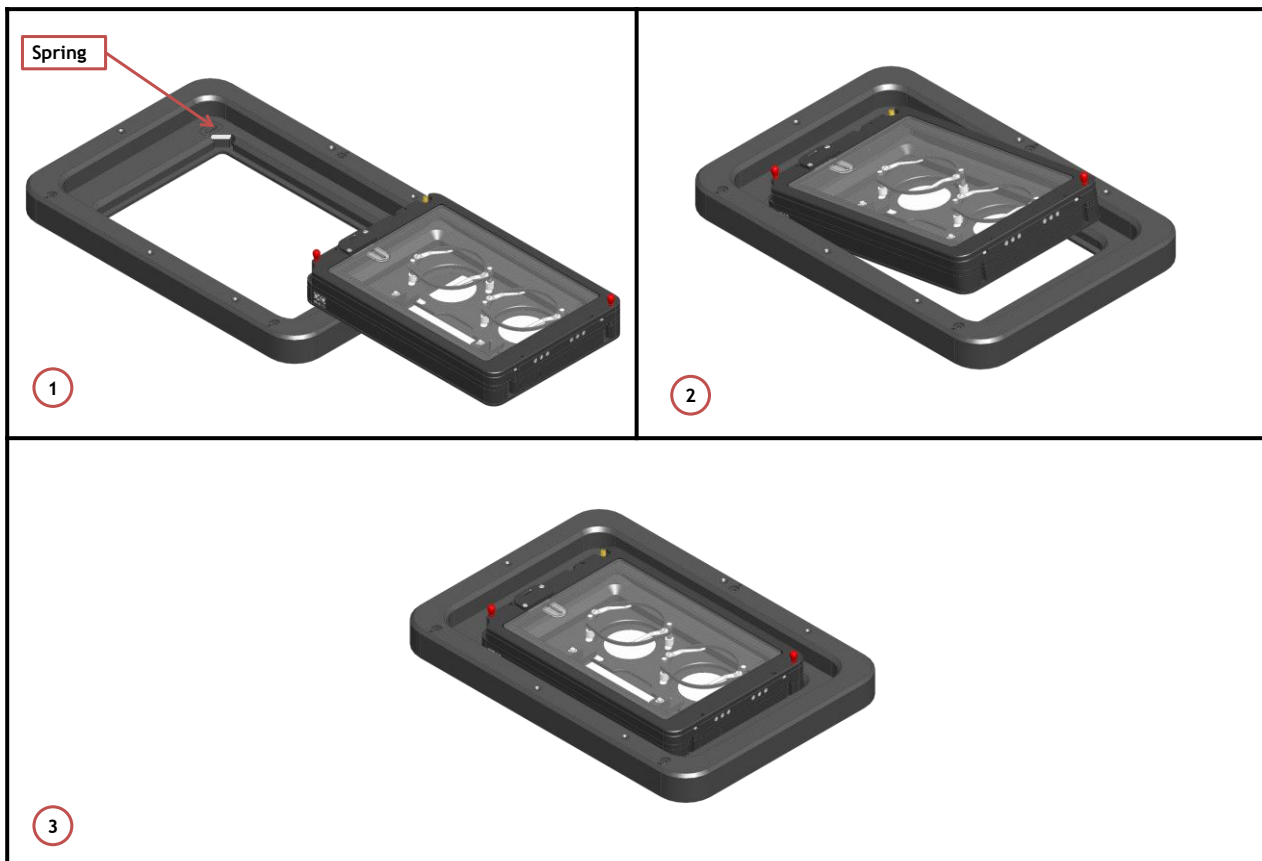

Figure 21. Connection of the Chamber with Z piezo Stage
H301-LUDL 96A602 fits on the Z piezo Stage without any screws. To fix the chamber on the stage, follow the steps shown in Figure 21.
1. Place the chamber on the stage (See Image 1 of Figure 21).
2. Incline the chamber and slide it in direction of the springs until it snaps into the housing. (See Image 2 of Figure 21).
3. Image 3 of Figure 21 shows the chamber fitted on the Z piezo Stage.